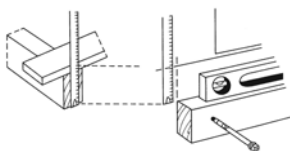

Fig 8 Measure decking and joist thickness.
- Measure the thickness of your decking, joist and bearers (Fig 8).
- Against the house wall, measure the required thickness down from the intended floor height of the deck (Fig 8).
- Fix a bearer at this level against the wall using Mungo bolts for masonry walls and coach screws for timber walls, both of which are available from your nearest Colli store (Fig 8). Use a bolt or screw every 450mm along the bearer to ensure stability. When fixing to a timber wall, try to screw into internal structural timbers whenever possible as this will provide added strength.